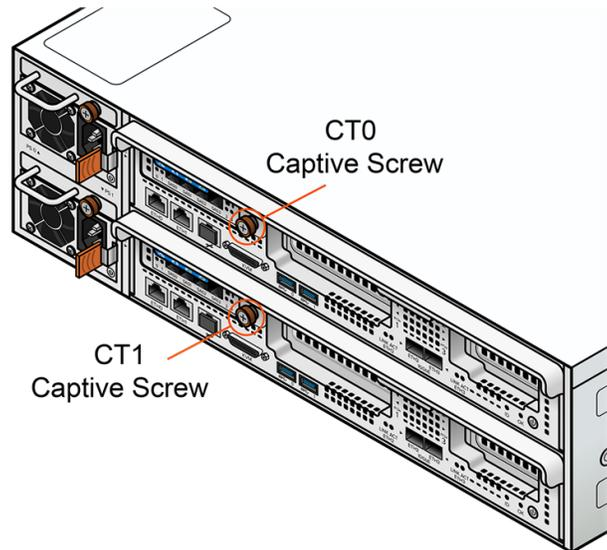

Figure 14-4. Loosening the Captive Screw
1. Loosen the orange captive screw on the rear panel of the controller. See Figure 14-4.